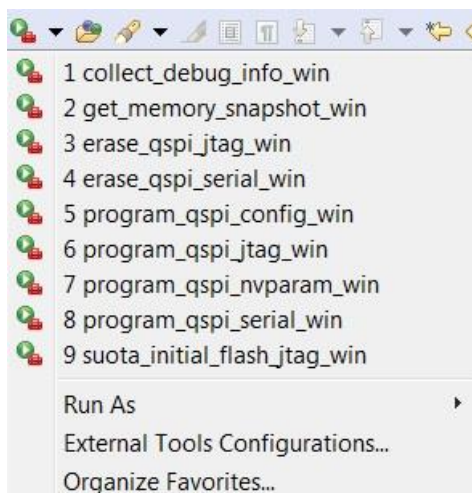

Figure 29: External Tools
2. Under the **External Tool Configurations** menu, click on the `program_qspi_serial_win` option (Or Run > External Tools > `program_qspi_serial_win`) as shown in Figure 29